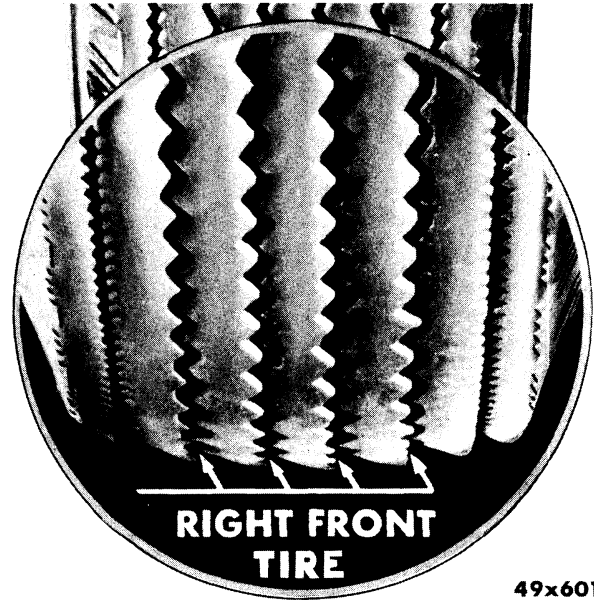

Fig. 26—Toe-In Wear
c. (Refer to Figures 26 and 27). Excessive toe-in or toe-out of front wheels affects the rate of tire wear more than any other factor.